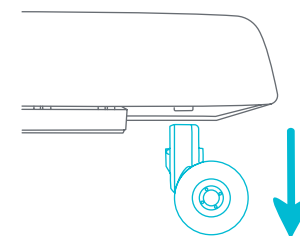

Fig. 13
- 13 • **REMOVAL:** Pull the front and rear wheels out from the base (Fig. 13).